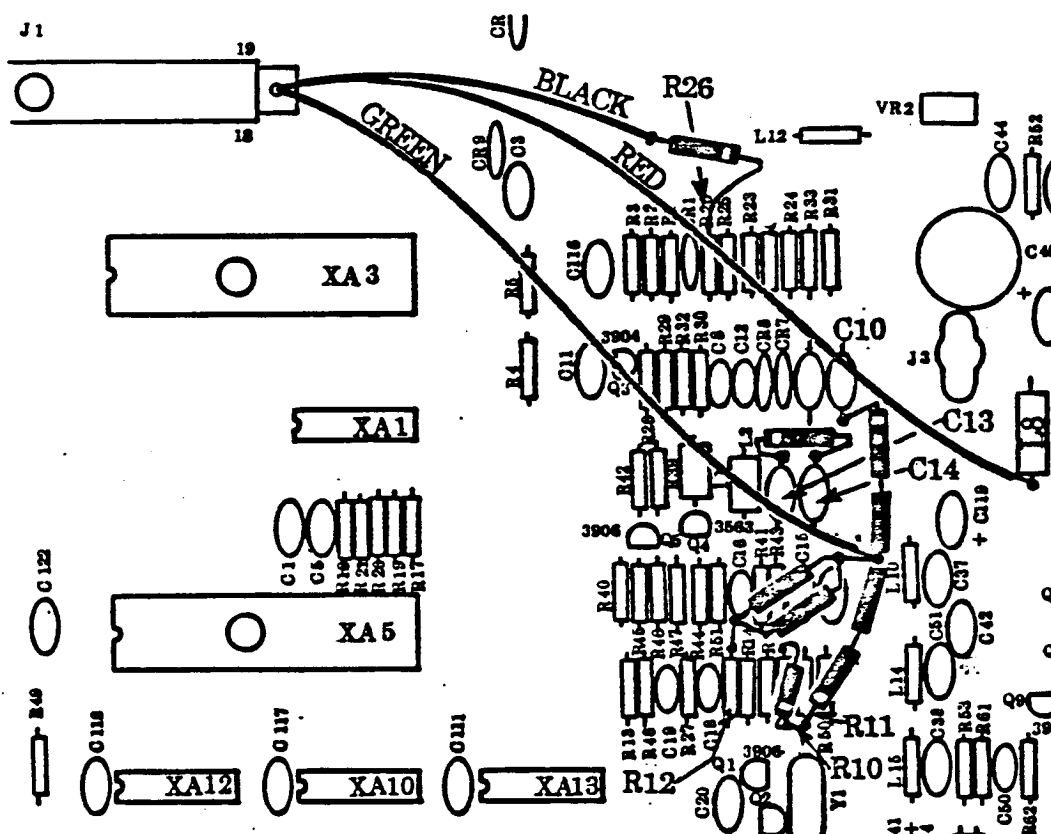

Figure 3. Retrofit Diagram.
6. Using Figure 3 as a reference perform the following: